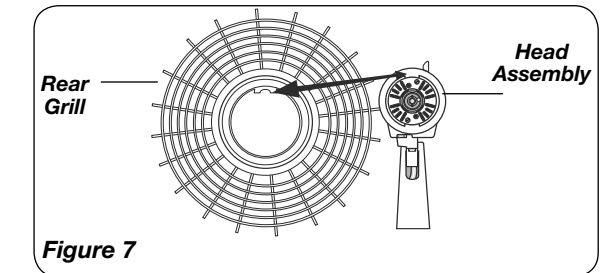

Figure 7
1. Tilt Head Assembly back. Put Rear Grill on Head Assembly. (**Figure 7**)